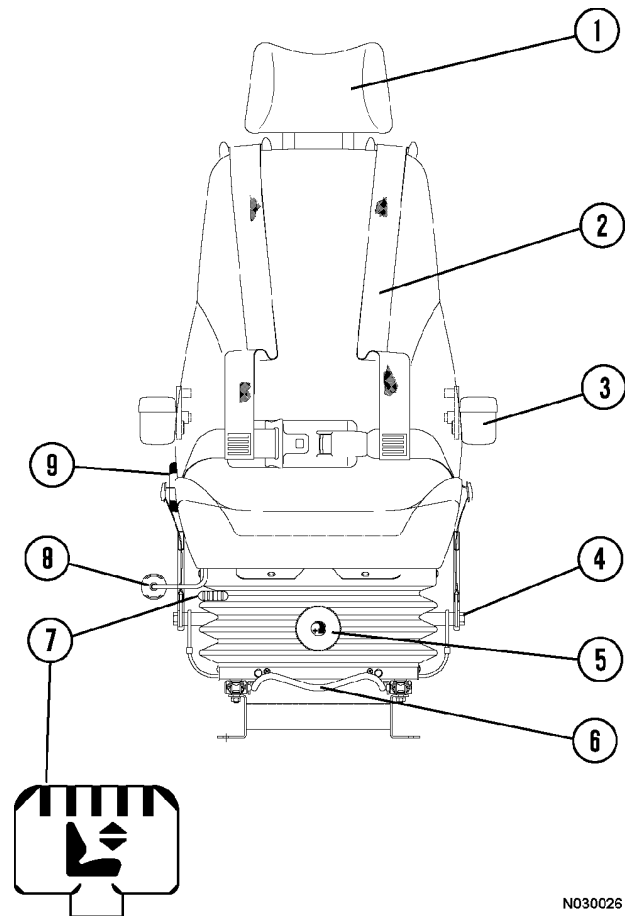

FIGURE 32-5. OPERATOR'S SEAT
- **Headrest** (1, Figure 32-5): Adjust up, down, fore, or aft by moving headrest to desired position.
- **Armrests** (3): Rotate adjusting knob until armrest is at desired angle.
- **Backrest:** Rotate knob (9) to adjust the backrest angle.
- **Seat Belt Harness:** Operator must always have four-point seat belt harness (2) buckled in place and properly adjusted during machine operation.
- **Air Lumbar Support:** Use lumbar hand pump (8) to adjust the air support. A release button on the back of the hand pump releases the air from the lumbar support.
- **Fore/Aft Adjustment:** Lift lever (8) and hold. Slide the seat to a comfortable position and release the lever to lock the adjustment.
- **Seat Height:** Lift lever (7) and then push the lever down to raise the seat one level. Remove body weight from the seat to allow it to adjust. To lower the seat one level, push lever (7) down, and then pull the lever up. Release lever to lock the adjustment.
- **Seat Tilt:** Pull lever (7) up to tilt the seat rearward. Push the lever down to tilt the seat forward. Release the lever to lock the adjustment.